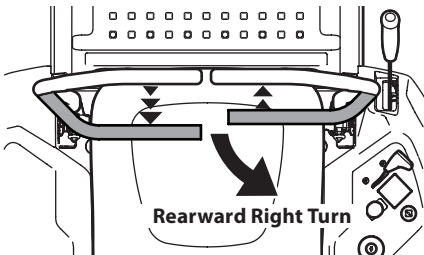

Figure 27
2. To turn to the right while traveling in reverse, move the right drive control lever forward of the left drive control lever. See Figure 27.